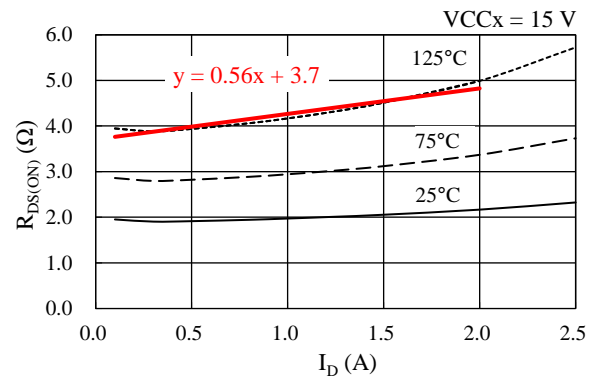

Figure 14-3. Linear Approximate Equation of $R_{DS(ON)}$ vs. I_D
Steady-state loss in a power MOSFET can be computed by using the $R_{DS(ON)}$ vs. I_D curves, listed in Section 15.3.1. As expressed by the curves in Figure 14-3, a linear approximation at a range the I_D is actually used is obtained by: $R_{DS(ON)} = \alpha \times I_D + \beta$. The values gained by the above calculation are then applied as parameters in Equation (9), below. Hence, the equation to obtain the power MOSFET steady-state loss, P_{RON} , is: